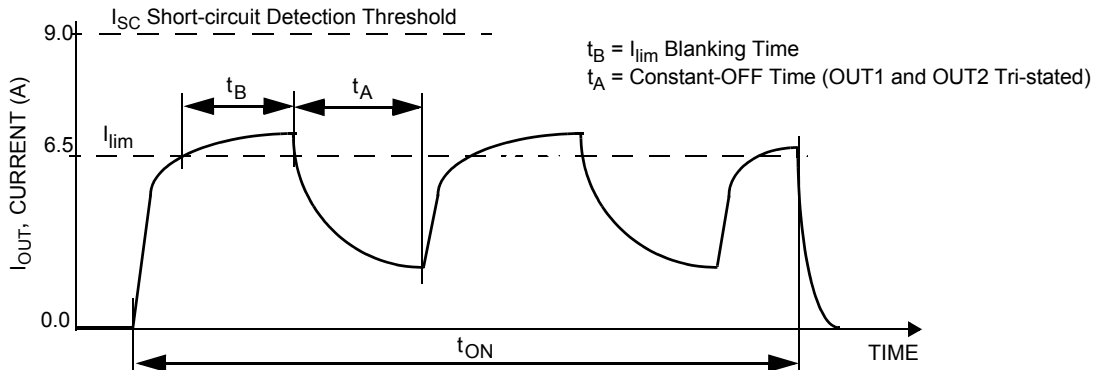
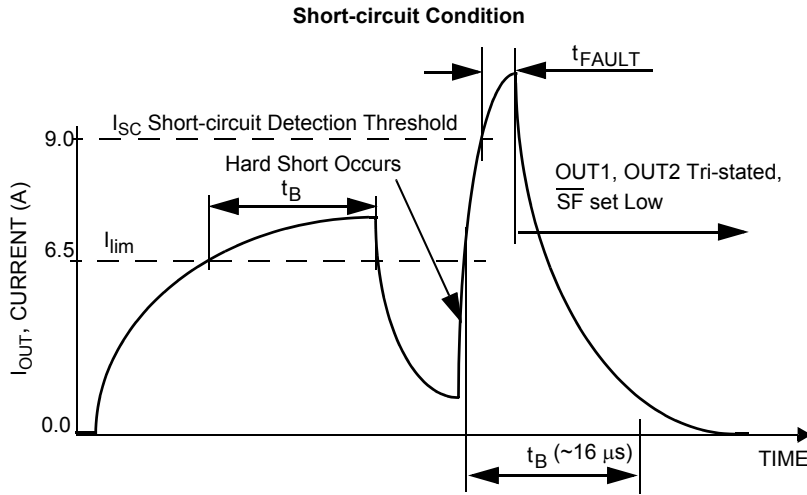
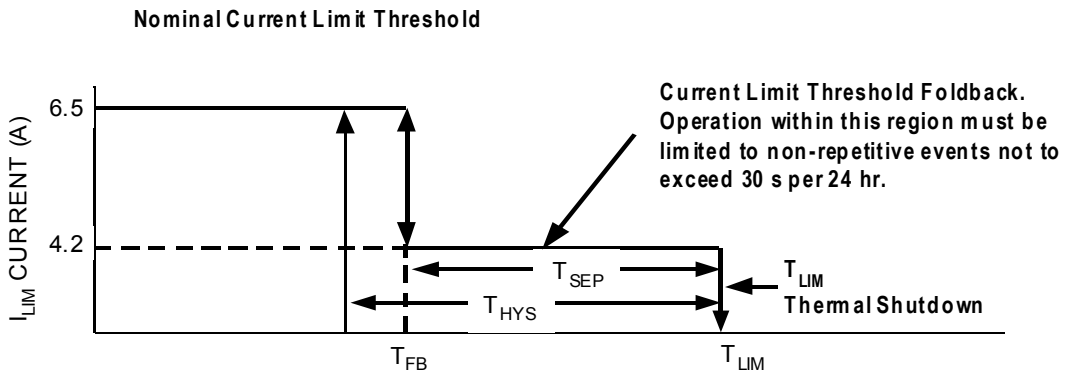

Figure 7. Current Limit Blanking Time and Constant-OFF Time
Figure 8. Short-circuit Detection Turn-OFF Time t_{FAULT}
Figure 9. Output Current Limiting Foldback Region
28. Load currents ramping up to the current regulation threshold become limited at the I_{LIM} value (see Figure 7). The short-circuit currents possess a di/dt that ramps up to the I_{SCH} or I_{SCL} threshold during the I_{LIM} blanking time, registering as a short-circuit event detection and causing the shutdown circuitry to force the output into an immediate tri-state latch-OFF (see Figure 8). Operation in Current Limit mode may cause junction temperatures to rise. Junction temperatures above $\sim 160^\circ\text{C}$ will cause the output current limit threshold to “fold back”, or decrease, until $\sim 175\text{ }^\circ\text{C}$ is reached, after which the T_{LIM} thermal latch-OFF will occur. Permissible operation within this fold back region is limited to non-repetitive transient events of duration not to exceed 30 seconds (see Figure 9).